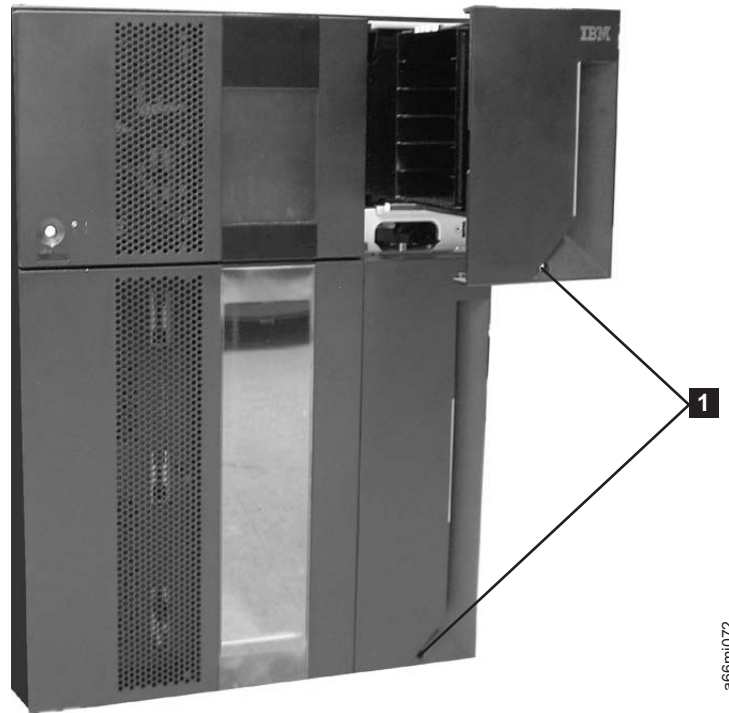

Figure 7-20. Access holes for manually unlocking I/O Station doors
There are 2 styles of I/O Station Lock mechanisms. The early style uses a T10 Torx wrench to rotate the lock mechanism. The new style has a large push-button type mechanism behind the hole (**1** in Figure 7-20) in the I/O station door.
1. Insert a T10 Torx wrench in the hole (**1** in Figure 7-20) located on the front of the I/O Station door of the library module you wish to open.
1. Insert any straight tool (screwdriver, Torx wrench, etc.) into the hole (**1** in Figure 7-20 on page 7-39) in the front cover of the I/O station.